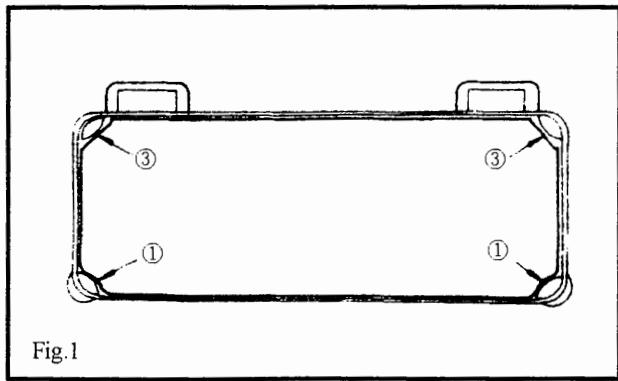
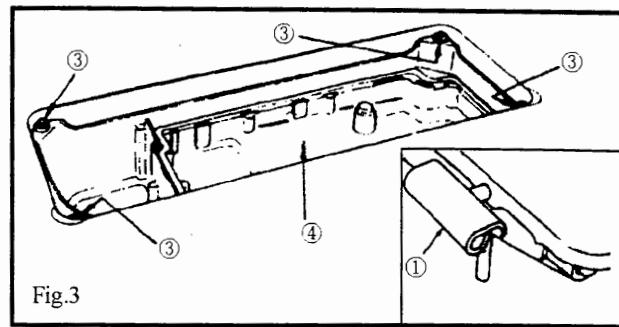
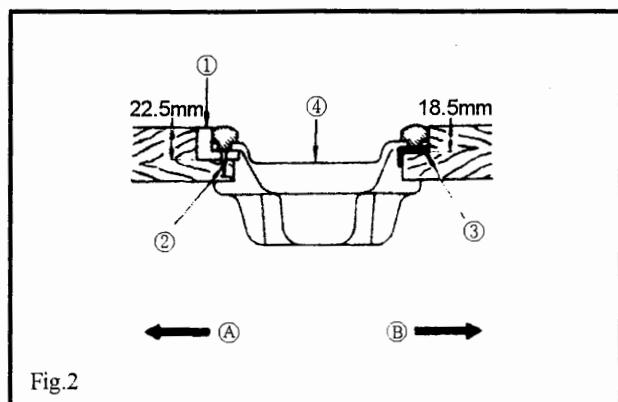
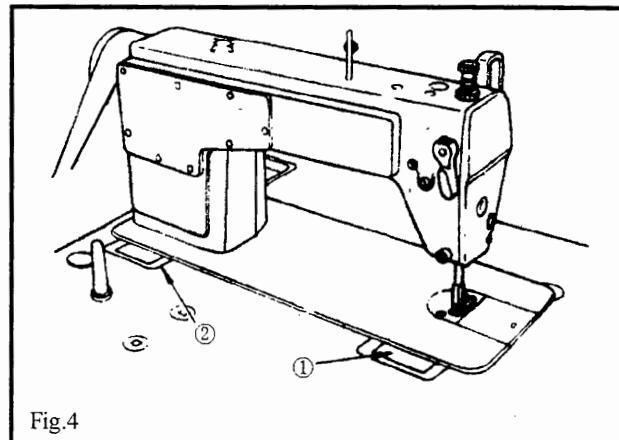

Fig.1
Fig.3
Fig.2
Fig.4
INSTALLATION (Fig.1, Fig.2, Fig.3, Fig.4)
- 2) Fix two rubber seats ① on side Ⓐ (operator's side) using nails ② as illustrated above. Fix two cushion seats ③ on side Ⓑ (hinged side) using nails ②. Then place oil pan ④ on the fixed seats. (Fig.1, Fig.2)
- 3) Fit hinge ① into the opening in the machine bed, and fit the machine head to table rubber hinge ② before placing the machine head on cushions ③ on the four corners. (Fig.3, Fig.4)